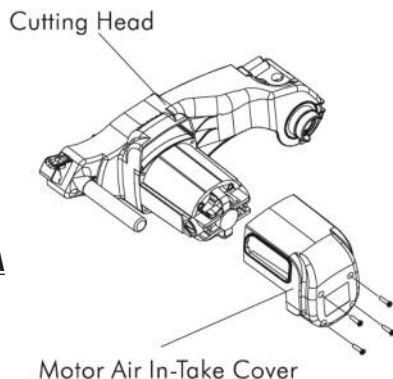

Figure 5A
3. Remove the four (4) motor air in-take cover mounting screws. *See Figure 5A.*